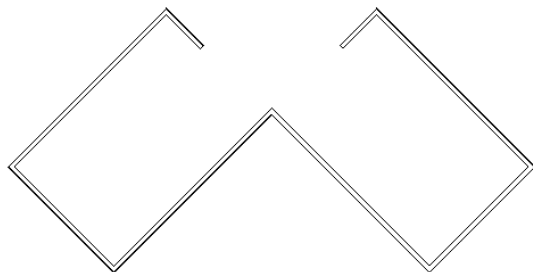

Figure 3-45 The sketched inclined wall exterior profile
10. Now, create the next two wall segments of lengths 60' and 14' to complete the inclined wall exterior profile, as shown in Figure 3-45.